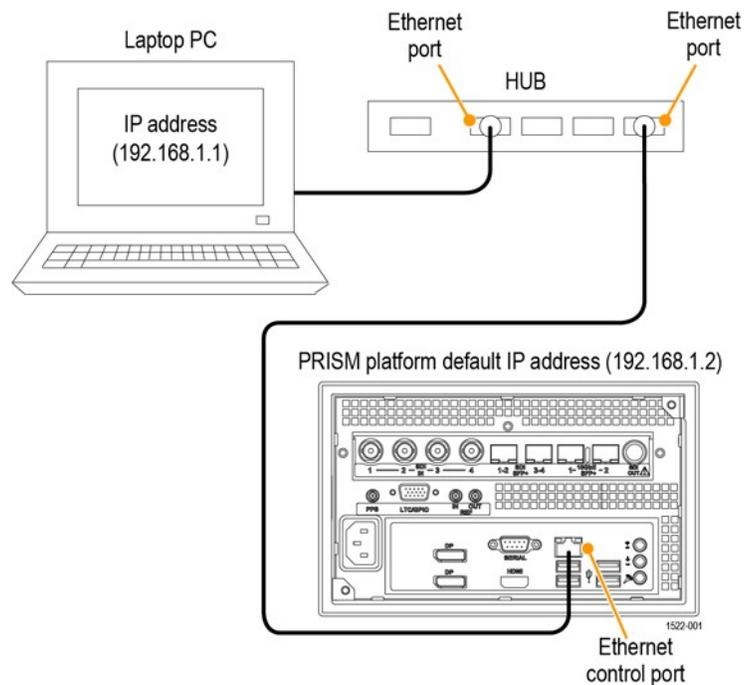

Figure 8: Connecting the instrument to a PC (MPI2-10 monitor shown)
1. Connect the instrument directly to a PC with an Ethernet cable. You can also use an Ethernet Switch. (See Figure 8.)